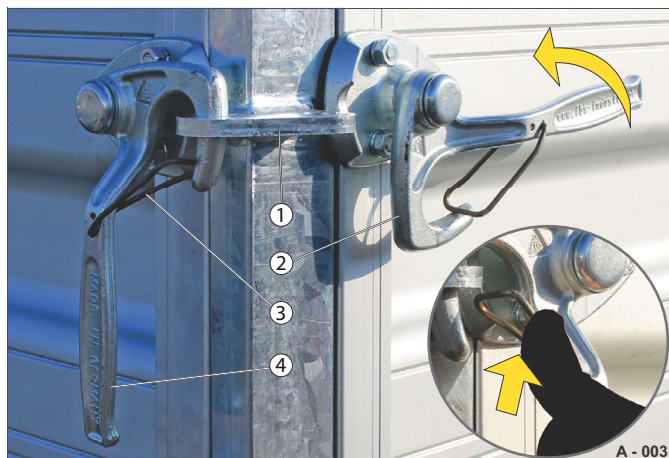

Fig. 8 Angle lever lock (HTK, HT, box, horse)
- Press in the locking spring (Fig. 8 /3) and at the same time rotate the angle lever (Fig. 8 /4) wide open so that it releases from the ring (Fig. 8 /1).
- The hook (Fig. 8 /2) is released.